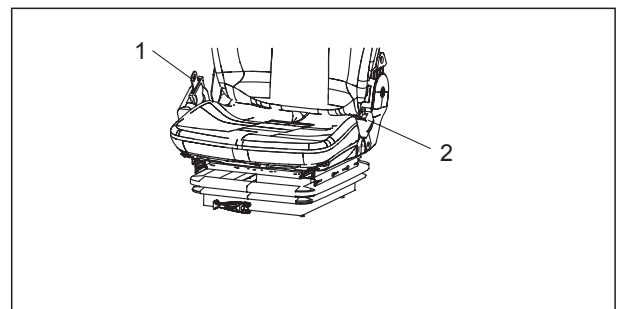

Fig 3.9
Adjust the seat to the best height which does not affect the driving. Completely release the seat belt (1), sit down on the seat, pull out seat belt (1), and buckle up lock catch (2). In order to remove the seat belt, press the button on lock catch (2) to pop up seat belt (1) (see Fig 3-9).